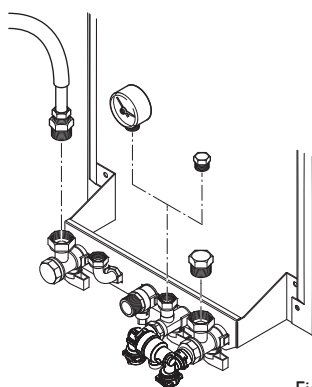

Fig. 19c
**To fill, test and flush if required (Fig. 19c)**